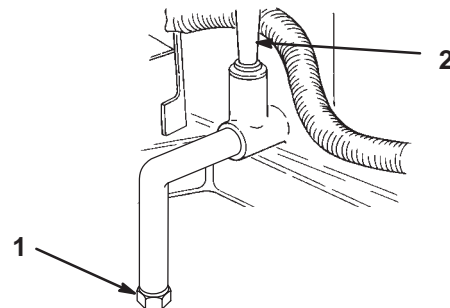

Figure 16
3. Place a pan below the oil drain pipe and remove the drain cap (Fig. 16).